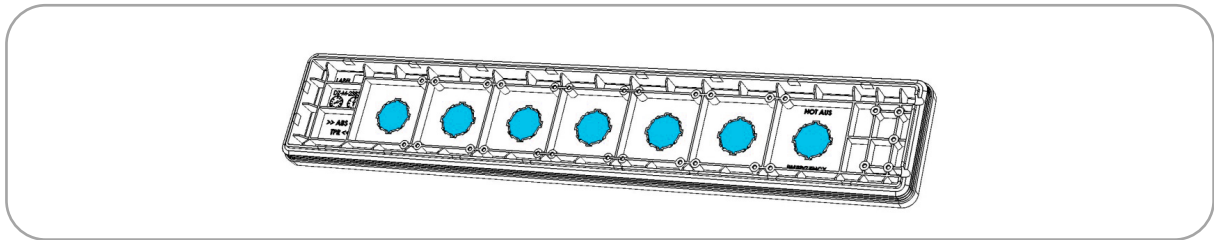

Figure 14: Prepunched openings in key module
- ➔ Punch the required  $\varnothing$  22.5 mm openings in the front coversheet from behind, or cut them out. The openings are highlighted in Figure 14.